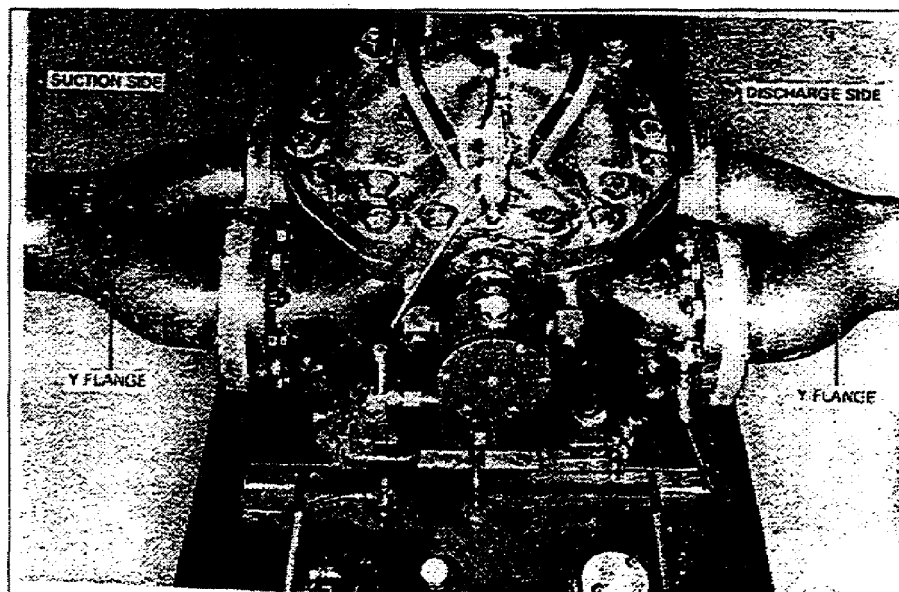

Figure 4. The 6-inch, two-stage pump with stages in parallel
b. Pump station operation in parallel. Parallel operation is not normally used on petroleum pipelines but can be found in terminal operations due to the capability to move high volumes of fuel. Parallel installation increases flow rate capability without increasing head capacity. The lower the head capacity, the closer together pump stations must be located; therefore, the more pump stations required for a given length of pipeline. Only the 6-inch, two-stage pump can be placed in parallel operation. Paralleling means that fuel flows through both stages at the same time. This increases the volume and output of the pump. The pump is put into parallel by using Y flanges (Figure 4), which are attached the suction and discharge side of the pump.